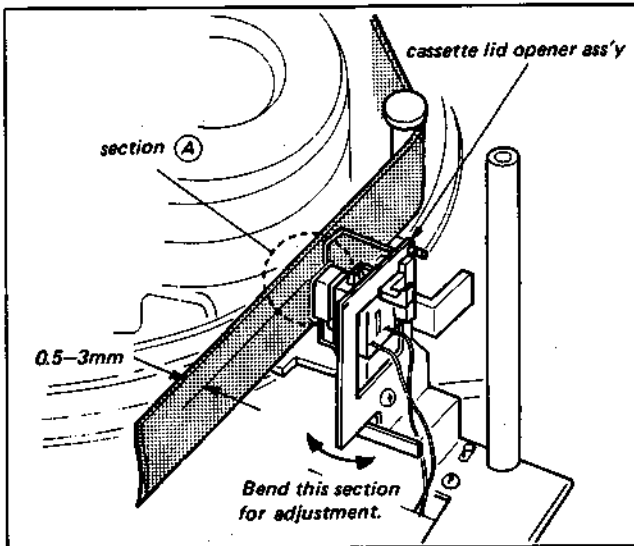

Fig. 3-27. Position adjustment of cassette lid opener metal (1)
- (i) The plate of the cassette lid opener bracket must be near the center of the slot in the white plastic holder guide when the cassette lift assembly is lowered. If it is not in this position, bend the lower section of the cassette lid opener bracket, as shown in Fig. 3-27, for adjustment.
- (ii) Confirm that section (A) in Fig. 3-27 satisfies the specification (0.5mm to 3mm) when the cassette is inserted and the PLAY mode is set up. This is the spacing between the tape and the take-up sensor.